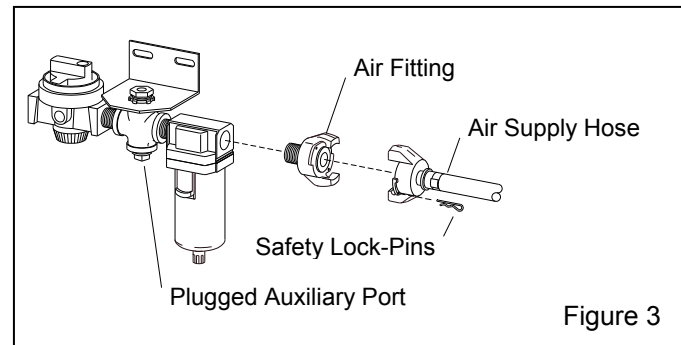

Figure 3
1.8.1 The size of the compressor required to operate the cabinet depends on the size of the air jet and blasting pressure. Unless otherwise specified, cabinets are supplied with a No. 5 (5/32" orifice) jet. Refer to the table in Figure 2 to determine cfm requirements. Consult with a compressor supplier for suggested compressor size based on the air consumption. **NOTE: A separate air line is required for the reverse-pulse dust collector. If preferred, remove the plug from the auxiliary air-port (shown in Figure 3) and connect a 1/4" ID or larger air line to the dust collector pulse reservoir/manifold.**
2.3.1 Refer to Paragraph 2.3.2 to determine the recommended air supply hose size, then refer to Figure 3 and apply thread sealant to the male threads of an air fitting that is compatible with the air supply hose fitting, and install it onto the 1/2-NPT air filter located under the cabinet hopper. **Note that the style of connection shown in Figure 3 is for reference only.**